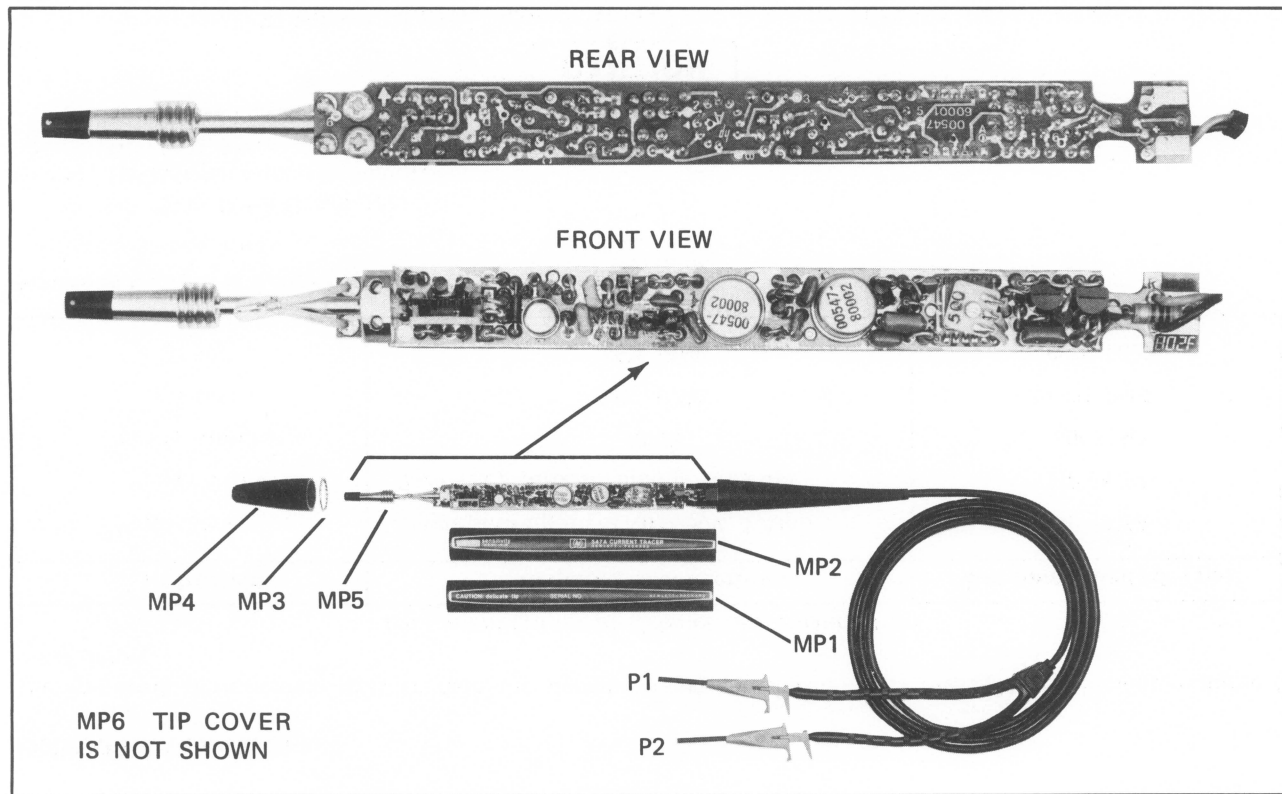

Figure 6. Exploded View of Current Tracer
**PROBE DISASSEMBLY.** To disassemble Current Tracer, refer to Figure 6, and proceed as follows: